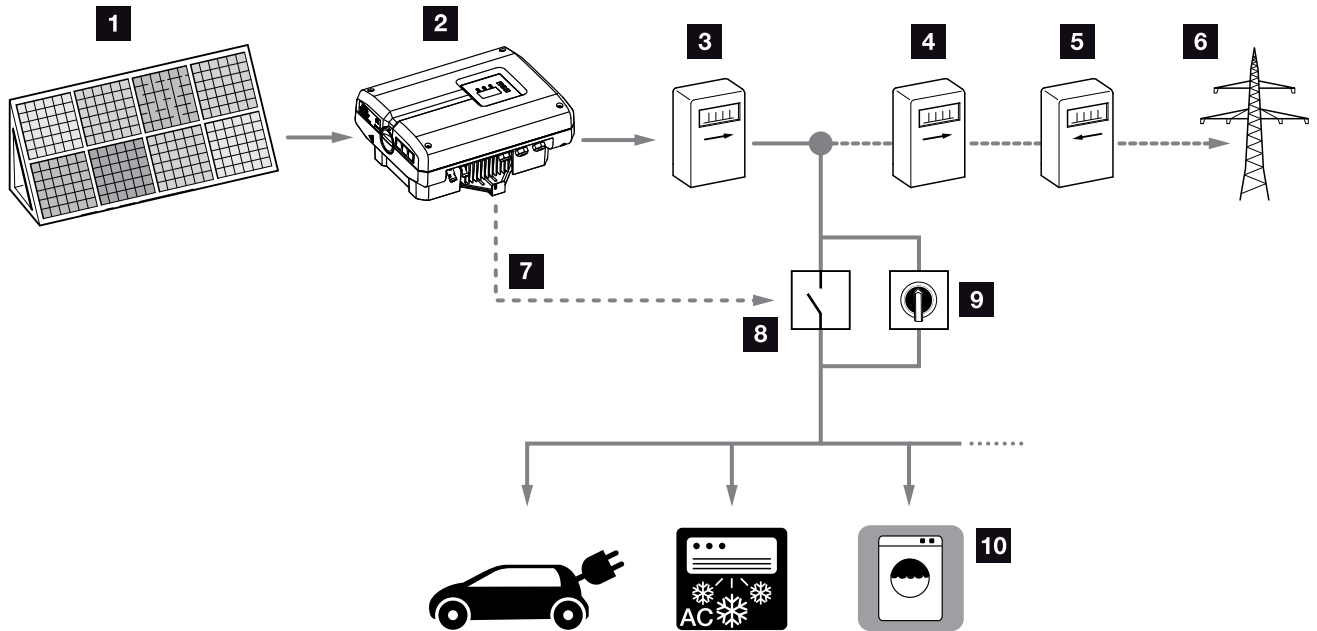

Fig. 59: Configuration of self-consumption
3. Properly install and connect the additional components for self-consumption.  **Fig. 59**